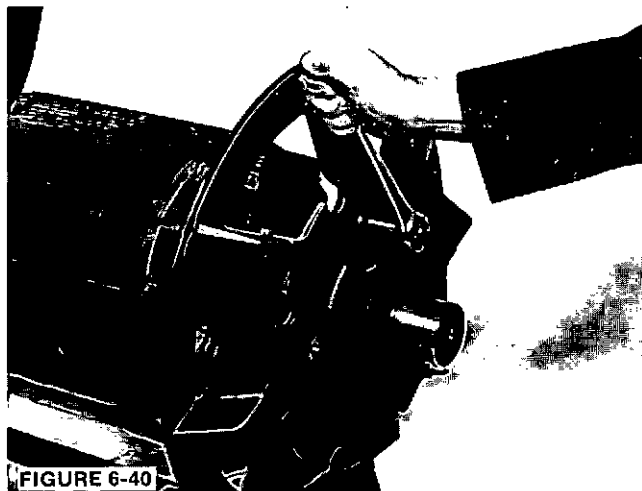
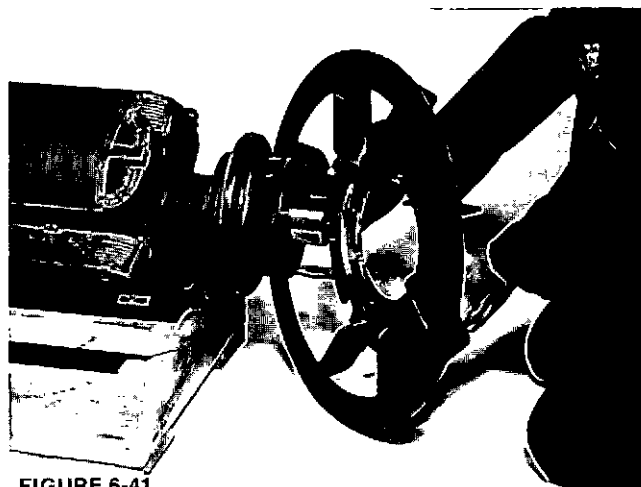

FIGURE 6-40
FIGURE 6-41
3. a. For single bearing generators. Remove the fan mounting capscrews (Figure 6-40) and slide the fan off the shaft. (Figure 6-41.)
- b. For two-bearing generators, remove the drive end bearing and bearing cap. (See bearing removal instructions.) Remove the fan mounting capscrews and slide fan off the shaft. (Figure 6-40 and 6-41.)